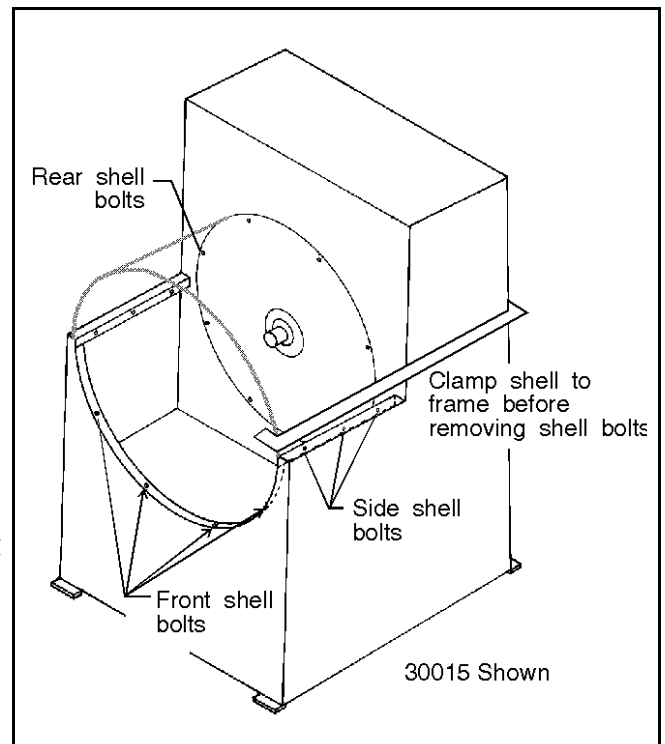

FIGURE 1 (MSSM0708BE)
1. Clamp the shell to the frame before removing the shell bolts (as shown in FIGURE 1).
5. Using drift pins, install the rear shell bolts first (FIGURE 1), then tighten to draw the shell into place.